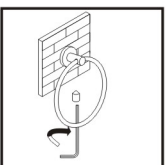

FIGURE 6
- Assemble the bar between the 2 posts and position over wall brackets, screw the posts with the screws provided. (FIGURE 6)